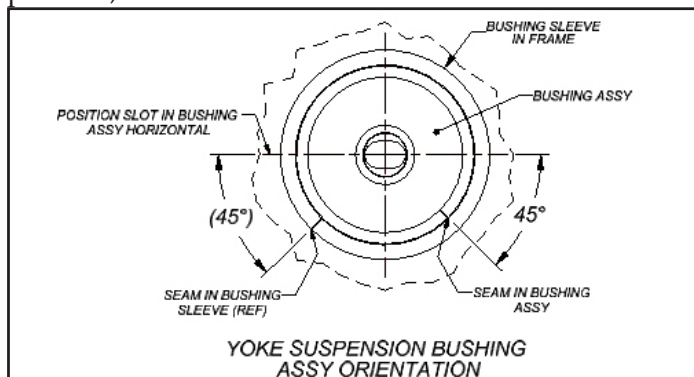

Figure 15. RAR-260 Yoke Mount
- Remove bushing assembly from the bushing sleeve welded to the frame by grinding away the four (4) welds on each side of the bushing sleeve/frame bushing sleeve assembly.
- Position (center) new bushing in the bushing sleeve welded to frame. Align the bushing assembly center slot and seam (Figure 15).
- Attach bushing to the frame bushing sleeve with four (4) one-inch welds on each side. NOTE: Excessive heat and distortion can damage the bond between the rubber bushing and steel sleeve of the bushing assembly. Welds should be staggered and the steel allowed to cool between welds.
2. Locate the adjuster plate at the pivot connection. Insert a 1/2”-shank breaker bar into the square hole of the adjuster plate. Move the arm beam forward or backward until the axle reaches alignment (Figure 15). NOTE: Check to make sure that the pivot bushing is not wedged sideways during